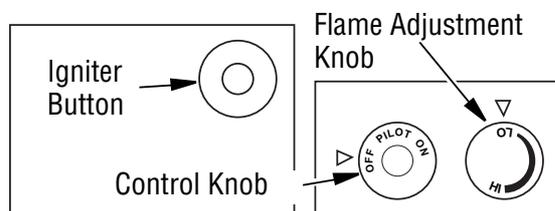

Figure 39 - Control Knob and Igniter Button Location
5. Wait five (5) minutes to clear out any gas. Then smell for gas, including near the floor. If you smell gas, STOP! Follow "B" in the safety information, column 1. If you don't smell gas, go to the next step.
6. Press in and turn control knob counterclockwise  to the PILOT position. Press in control knob for five (5) seconds (*see Figure 39, Page 23*).